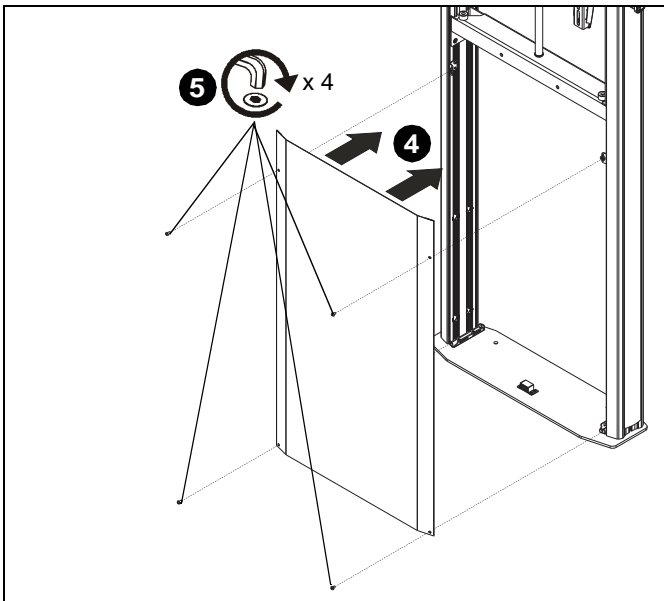

Figure 17
6. Reinstall lower cover. Refer to Cover Removal Section for details. (See Figure 17)
4. Install front cover back on mount using magnets. (See Figure 17)
5. (Optional) Re-install four button head cap screws if additional security is desired. (See Figure 17)